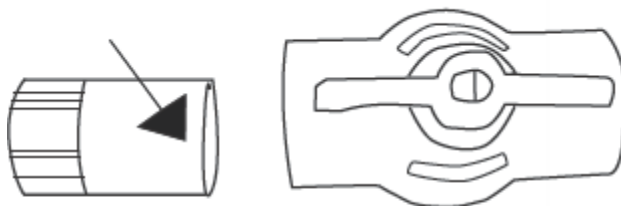

Figure 15
A.) Make sure that the Rogue2 water system has been properly assembled as explained in the Rogue2 Installation Instructions. Next, apply PVC glue around the end of the garden hose adapter indicated by the arrow in Figure 15.